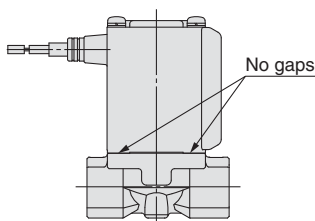
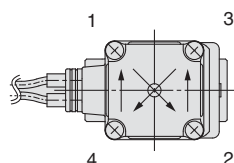

Fig.1
Fig.2
- Push the coil assembly against the body and tighten the screws two or more rounds diagonally (Fig. 2) in the status that there are no gaps between the coil assembly and body (Fig. 1).
* After tightening the screws, make sure that there are no gaps between the coil and body (Fig. 1).